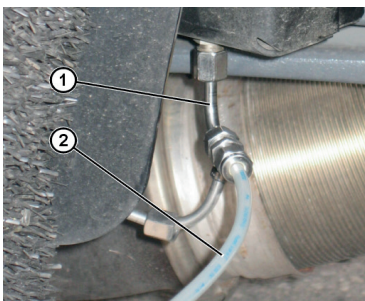

Fig. 4: Connecting the test pressure line_2
2. Connect the test pressure line (fig. 4, item 2) for the relevant vehicle manufacturer.
Connect the test pressure line (fig. 4, item 2) directly to the metering module.
Connect the test pressure line (fig. 4, item 2) to the metering module using an adapter (fig. 4, item 1).